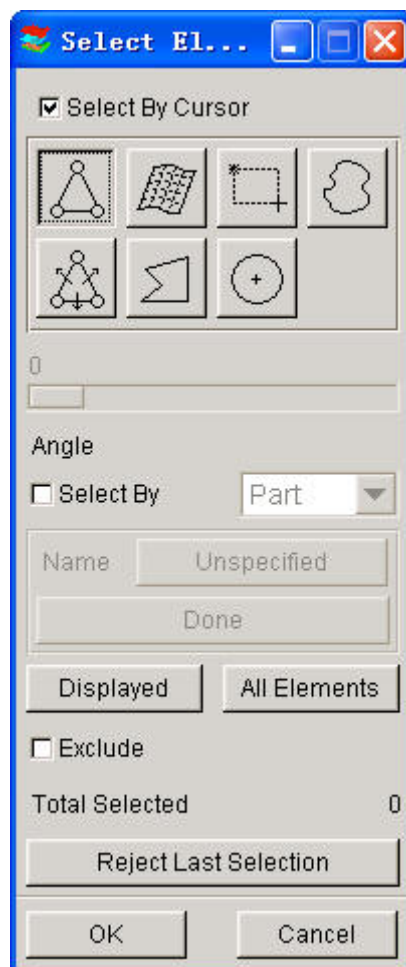

Figure 4.3.3 Select Element
- Select ELEMENT(S), and the SELECT ELEMENTS dialog window is displayed. See Figure 4.3.3. There are three sets of functions, depending on whether SELECT BY CURSOR or SELECT BY is ON.